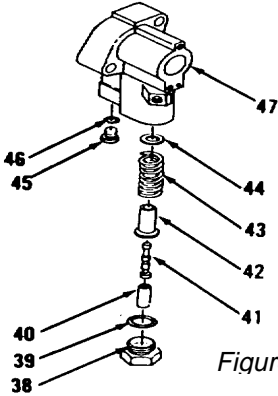
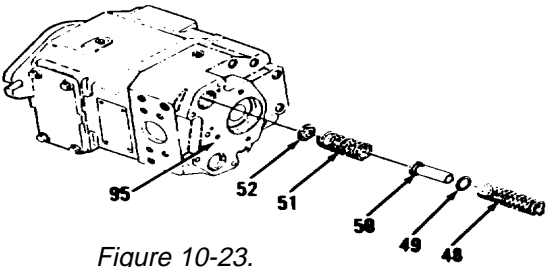

Figure 10-22.
Figure 10-23.
- 16. Remove plug (38), preformed packing (39), spacer (40), piston (41), retainer (42), spring (43) and two shims (44) from housing (47, Figure 10-22). Discard preformed packing (39).
- 17. Remove plug (45) and preformed packing (46). Discard preformed packing (46).
- 18. Remove spring (48), three washers (49), seat (50), spring (51) and spacer (52) from head (95, Figure 10-23).